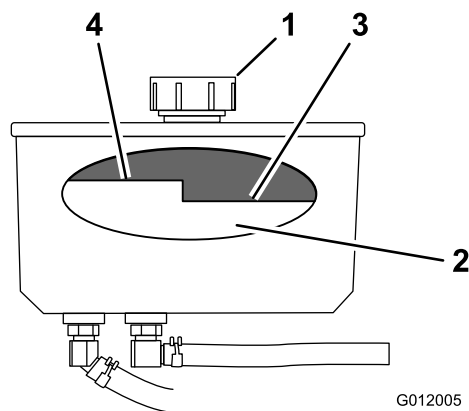

Figure 71
3. Clean the area around the cap and the filler neck of the hydraulic tank (Figure 71).
4. Remove the cap from the filler neck (Figure 71).
Note: The fluid level should be below the hot level of the baffle when the fluid is warm (Figure 71).